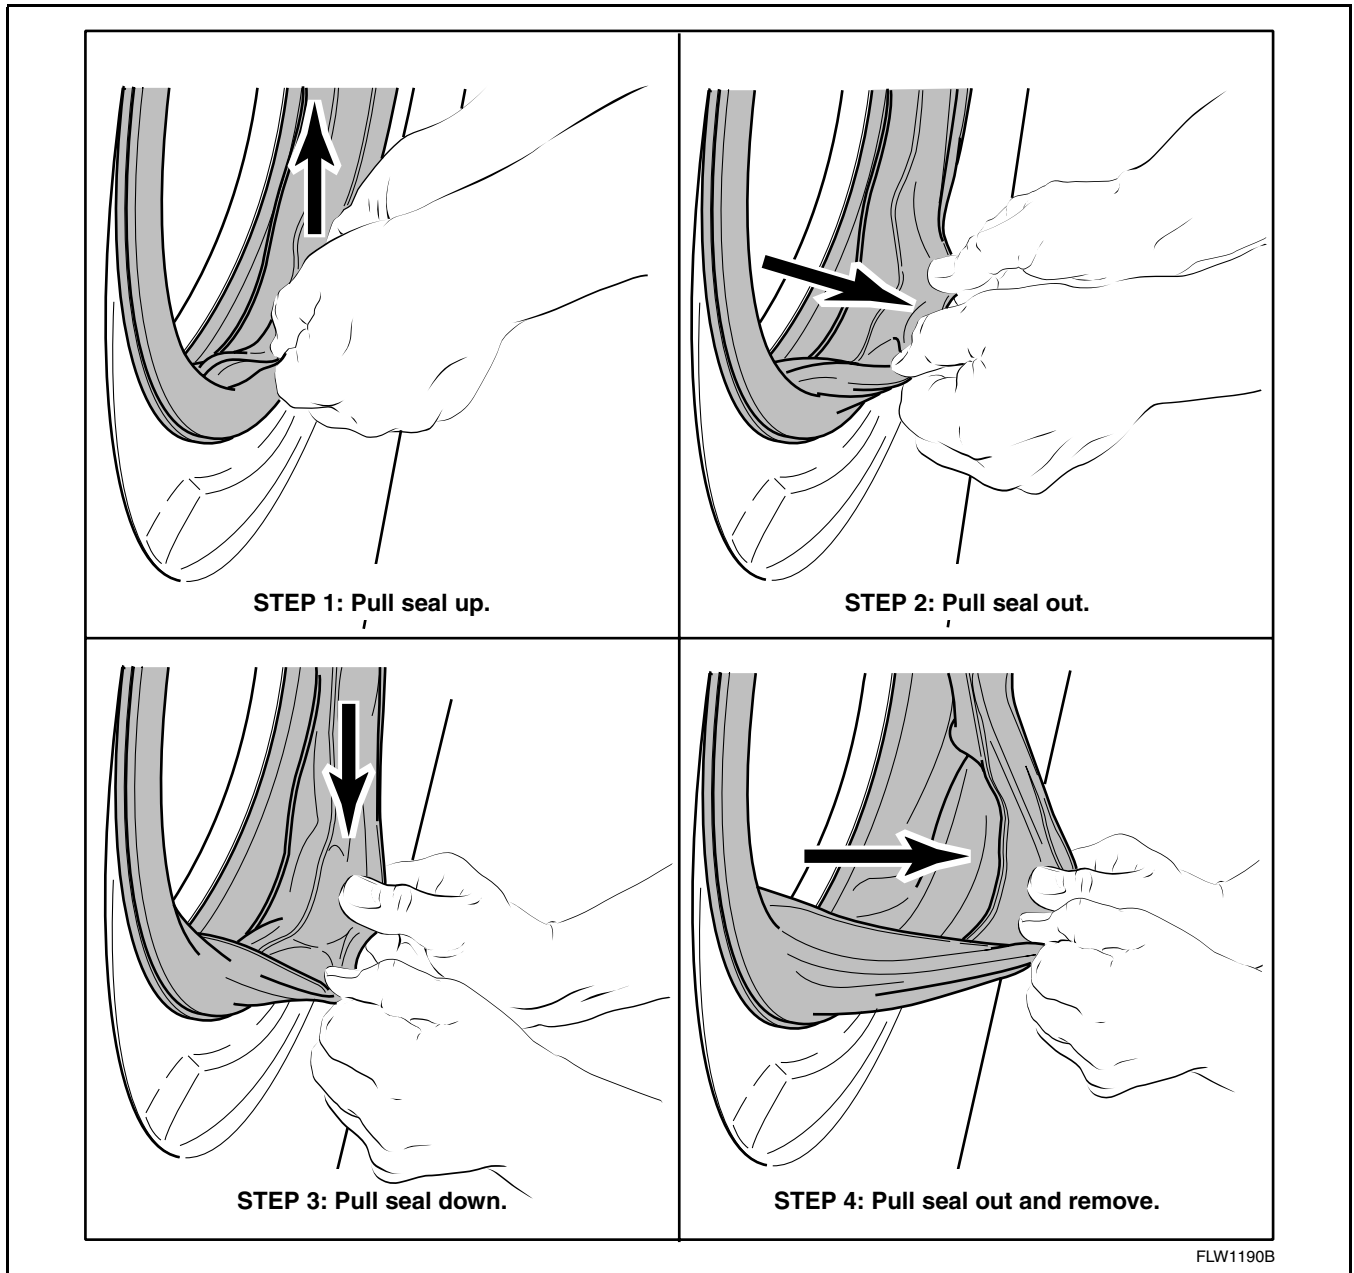

Figure 32
- (3) Grasp loading door seal lip. Refer to *Figure 32*, Step “1”.
- (4) Using a circular motion, pull seal up (*Figure 32*, Step “1”), out (*Figure 32*, Step “2”), and down (*Figure 32*, Step “3”).
- (5) When seal releases from lip of front panel, pull out and remove the seal. Refer to *Figure 32*, Step “4”.
- (4) Grasp loading door seal lip. Refer to *Figure 32*, Step "1".
- (5) Using a circular motion, pull seal up (*Figure 32*, Step "1"), out (*Figure 32*, Step "2"), and down (*Figure 32*, Step "3").
- (6) When seal releases from lip of front panel, pull out and remove the seal. Refer to *Figure 32*, Step "4".
- f. Grasp loading door seal lip. Refer to *Figure 32*, Step “1”.
- g. Using a circular motion, pull seal up (*Figure 32*, Step “1”), out (*Figure 32*, Step “2”), and down (*Figure 32*, Step “3”).
- h. When seal releases from lip of front panel, pull out and remove the seal. Refer to *Figure 32*, Step “4”.